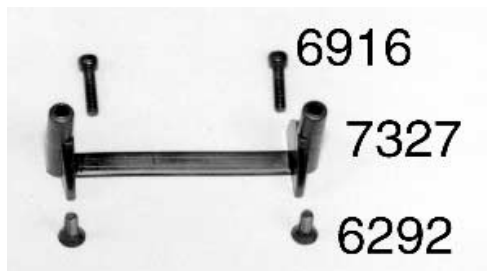
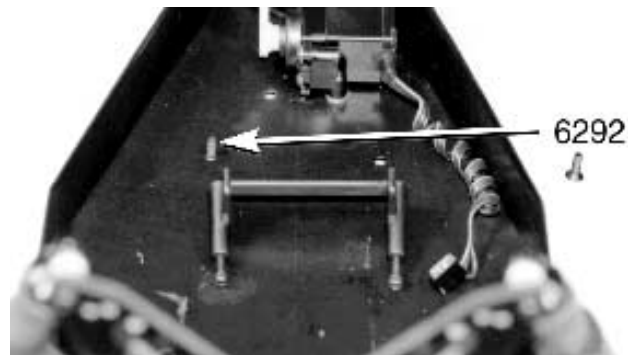

Fig. 151
Fig. 152
□ **Fig. 151 & 152** In bag #7-7 you will find the #7327 front battery mount for the T2, two #6916 4-40 x 1/2" SHCScrews (with hole) and two #6292 4-40 x 3/8" FHSScrews. Thread the #6916 screws into the front battery mount as shown. We will adjust the height of the #6916 screws a little later in the instructions. Referring to fig. 152, use the two #6292 FHSScrews to fasten the front battery mount to the chassis.